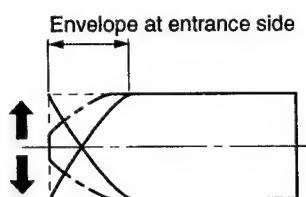

Fig. 1-7-10 Video envelope rising when operation mode is switched from review to play mode
2. Switch the Review mode to the Play mode. When switched to the Play mode, make sure the entrance side envelope comes to an approximate steady state within 3s as shown in Fig. 1-7-10.